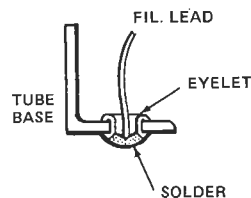

Figure 1
- 3) Old Man Time and the two above mentioned factors, resulted in a filament lead completely insulated from the base contact (Figure 1).